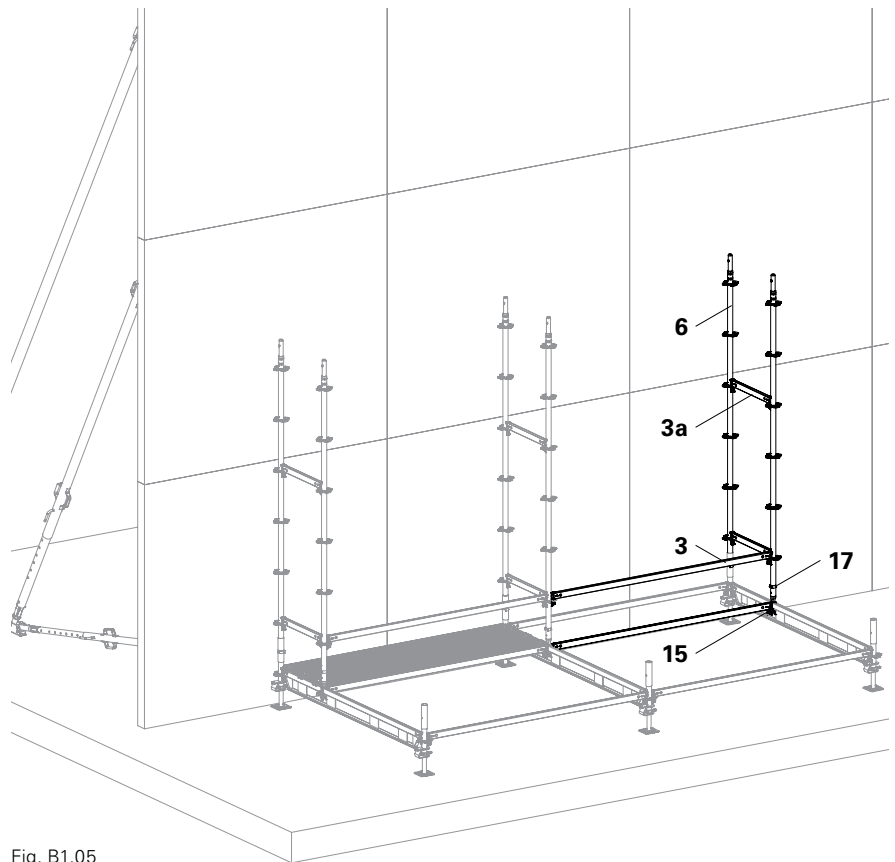

Fig. B1.05
1. Place Ledger-to-Ledger Coupler UHA (15) on Ledger UHV (5), do not yet secure wedges for alignment.
2. Insert Standards UVR (6).
3. Connect Base Standard UVB (2) and Ledger-to-Ledger Coupler UHA (15) with Standard UVR (6) by means of Locking Pins (17).
4. Attach Ledgers UH (3) and securely fix with wedges.
5. Attach Ledgers UH 75 (3a) and securely fix wedges. (Fig. B1.05)